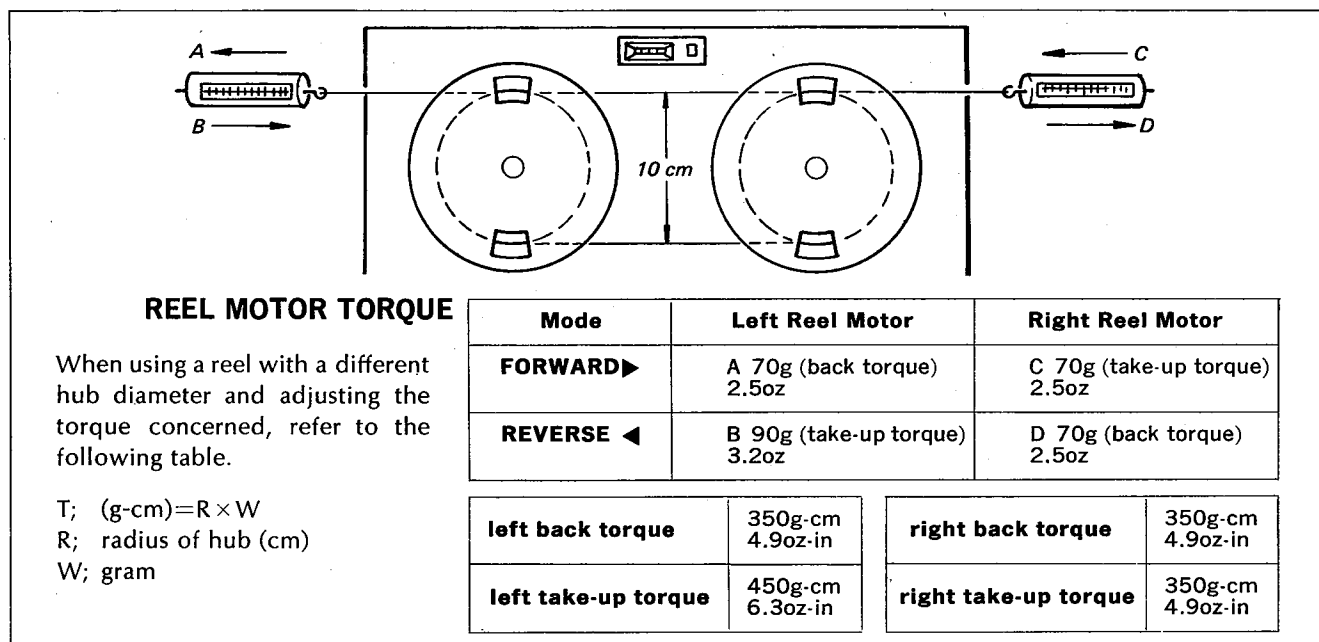

Fig. 3-2 Reel motor torque adjustment
### 3-2. Reel Motor Torque Adjustment (See Figs. 3-2 and 3-3)
- Set the reel hub and spring scale as shown in Fig. 3-2.
### 3-3. Reel Motor Torque Adjustment in Rewind Mode (See Figs. 3-2 and 3-3)
- Place the reel and spring scale on the right reel table as shown in Fig. 3-2.